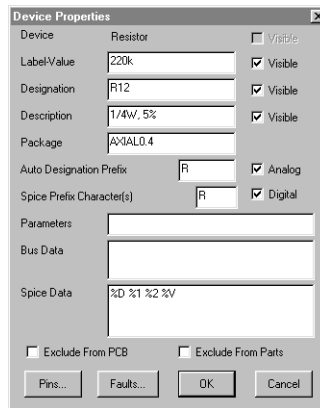

Figure 4.14. Use the Device Properties dialog box to enter or change a variety of device information.
- 1 Double-click on a device or Right-click on it and select **Device Properties** to display the Device Properties dialog box shown in Figure 4.14.